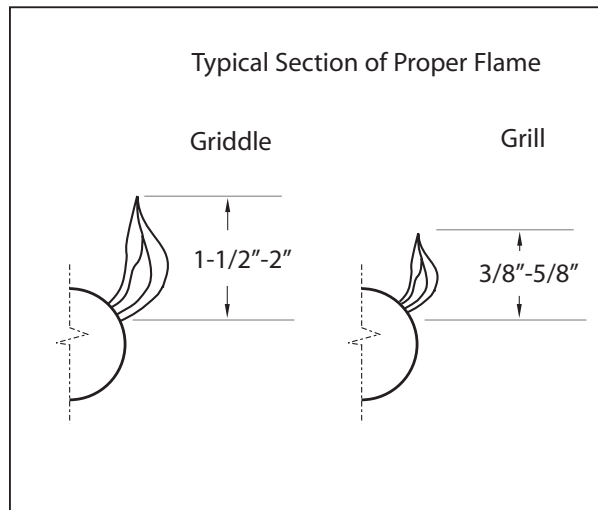

Fig. 10
Check for the proper burner flame characteristics and adjust air shutters if necessary (fig. 10). Each air shutter is individually tested and adjusted prior to shipment. Normally adjustment is not required, however, vibration during transit, or variations in the local gas supply may make minor adjustments necessary. Burner flames should be blue and stable with no yellow tips, excessive noise or lifting of the flame from the burner. If any of these conditions exist, check that the air shutter or burner ports are not blocked. If this condition persists, adjust the air shutter as required. If the flame is too yellow, indicating insufficient air, adjust the shutter counterclockwise to increase air inlet. If the flame is noisy or tends to lift away from the burner, indicating too much air, turn the shutter clockwise to reduce air. The griddle flames should be 1-1/2" to 2". The grill burner flames should be 3/8" to 5/8" (fig. 10).
- Flame adjustment made on air shutter of griddle, or grill burner, (figs. 10).